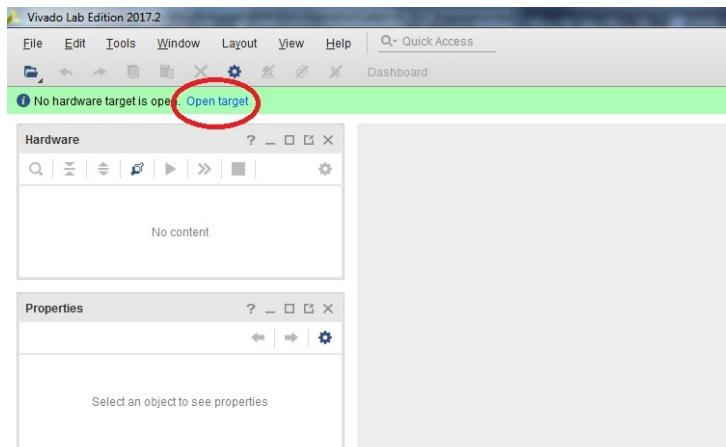

Figure 1.3: Vivado interface.
Updating the firmware on the **TLU** requires writing a bit stream file to its **FPGA**. This operation is performed using the left **USB** port located on the back panel, labelled **FPGA PROGRAMMING** in figure 1.3.
1. Open the Vivado tools and select "Hardware manager", figure 1.3